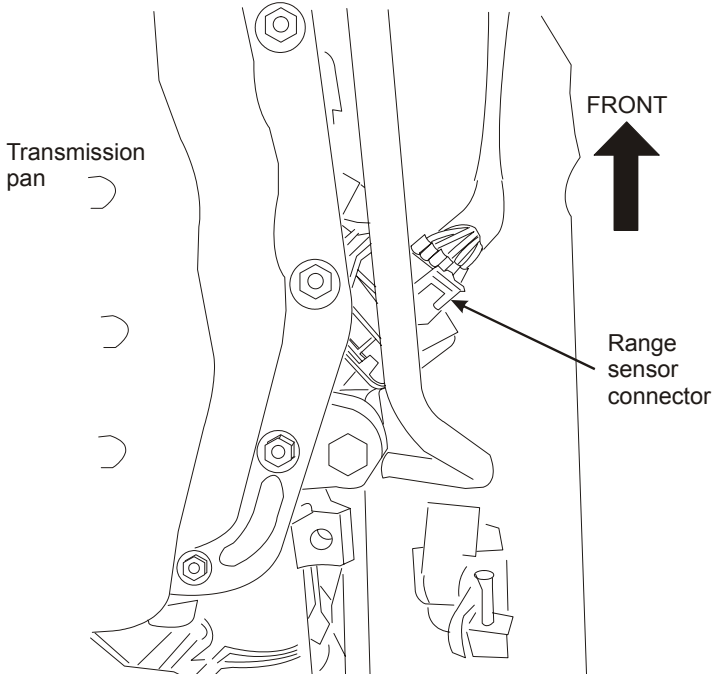

Figure 2
- Route the blue wire from the throttle control to the transmission range sensor on the driver side of the transmission above the oil pan (Figure 2). Solder and seal the blue wire to the yellow wire with the black stripe at pin 6 on the connector.